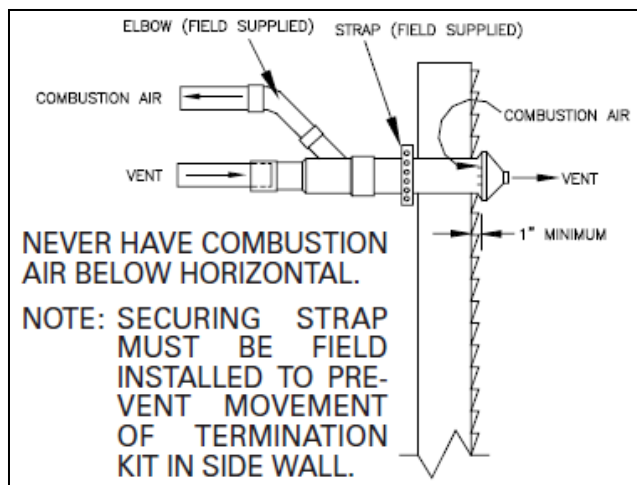

Figure 6 – Sidewall Attachment
6. Secure assembly to structure using field supplied metal strapping or equivalent support material (see Fig. 6).
7. Cement air inlet and exhaust vent pipes to concentric vent termination assembly. See Fig. 6 for proper pipe attachment.